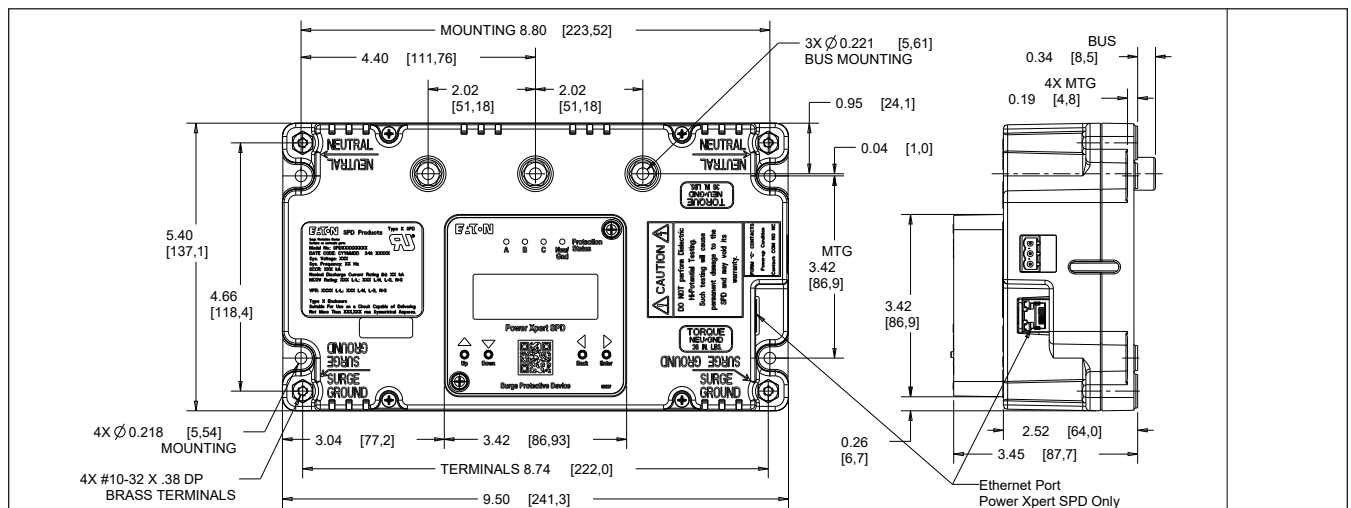
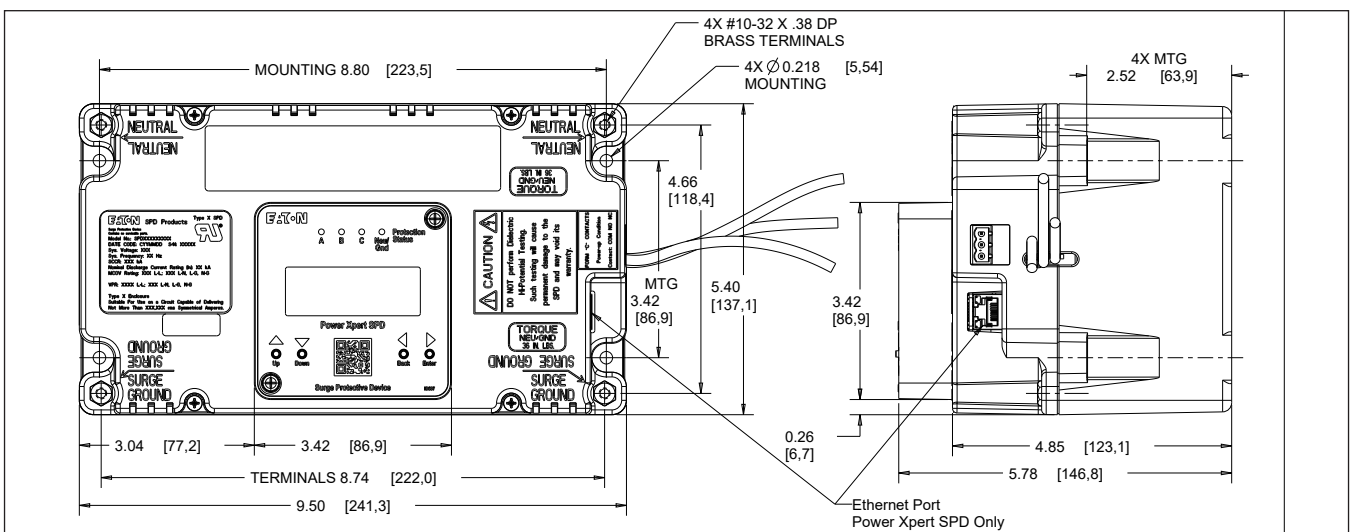

Figure 3. Dimensions for 50-200kA units
Figure 4. Dimensions for 250-400kA units
4. Mount the SPD to the support brackets (customer supplied) using #10 fasteners and tighten to 4.1 N·m (36 in-lbs). See Figures 3 and 4 for mounting details.
1. Ensure that the dead-front or door has the appropriate cut-out to accommodate the SPD display. See Figure 3 or Figure 4.
1. Ensure that the MCC bucket door has the appropriate cut-out to accommodate the SPD display. See Figure 3 or Figure 4.